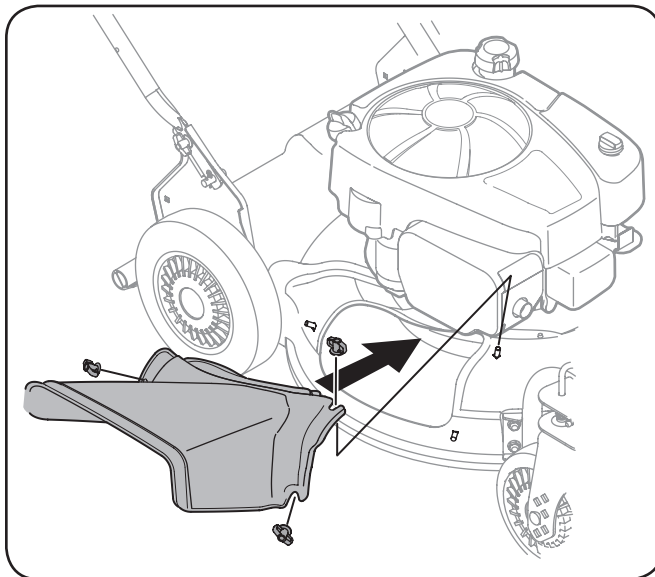

Figure 3-7
2. Attach side discharge chute to unit and secure with the three wing nuts. See Figure 3-7.